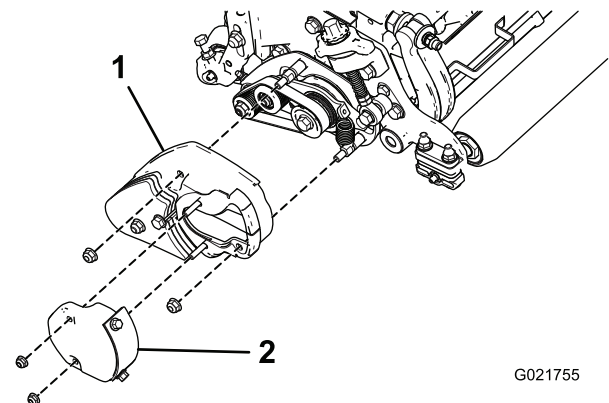

Figure 15
31. Remove the access cover from the groomer cover assembly (Figure 15).
32. Install the groomer cover and secure it with (2) flange nuts (5/16 inch); refer to Figure 15.
33. Install the access cover onto the groomer cover with the fasteners you removed previously (Figure 15).